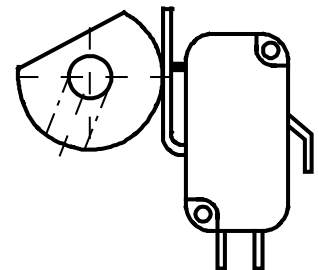

fig. 1d. Initial Position
6. Rotate green cam until switch lever arm rides on the curved portion of the cam. (fig 1d).
13. Rotate red cam until switch lever arm rides on the curved portion of the cam (fig 1d).